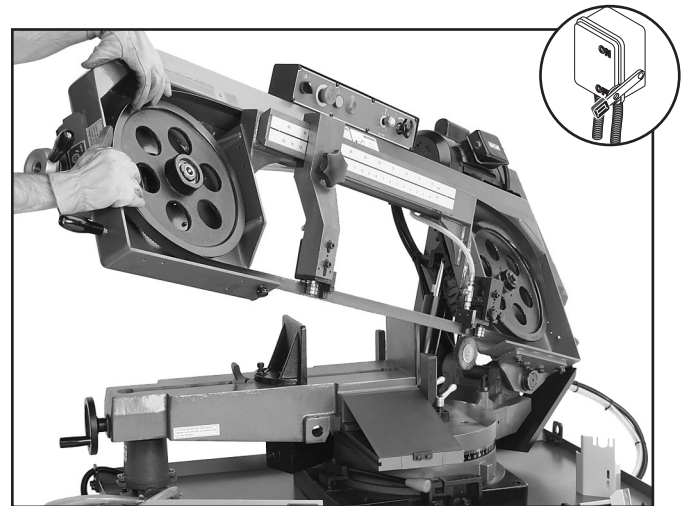

Figure 43. Installing the blade.
6. Install the new blade through both blade guide bearings, as shown in **Figure 43**, and around the bottom wheel.